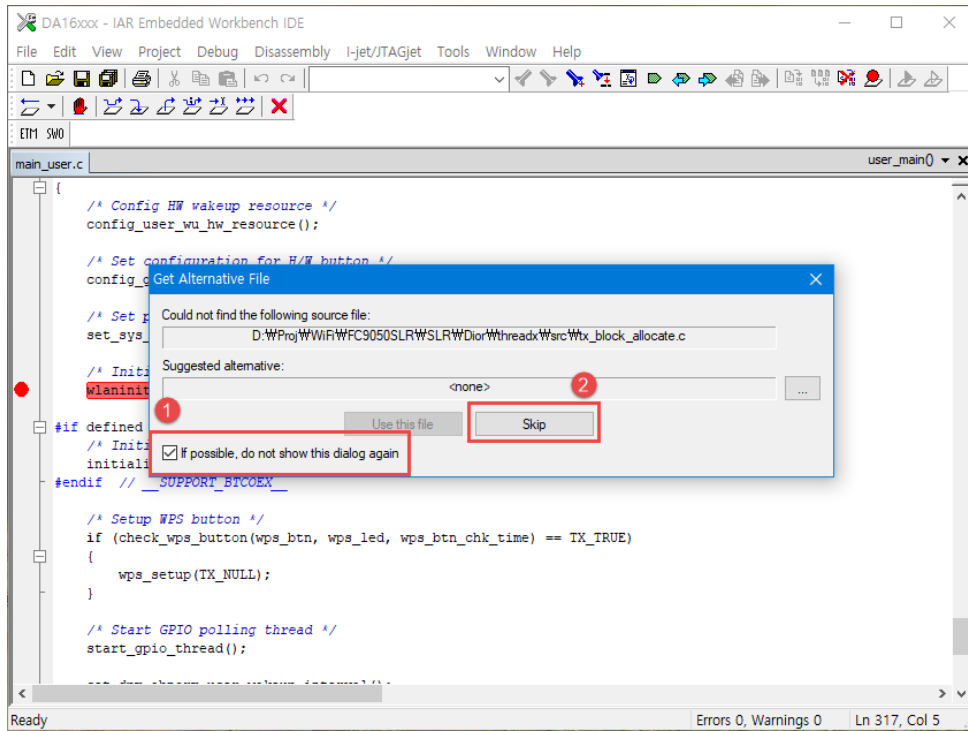

Figure 45: Pop-Up Message
- l. Select the **Connection** tab (2).
6. Select the checkbox (1) and then click **Skip** (2). See Figure 45.